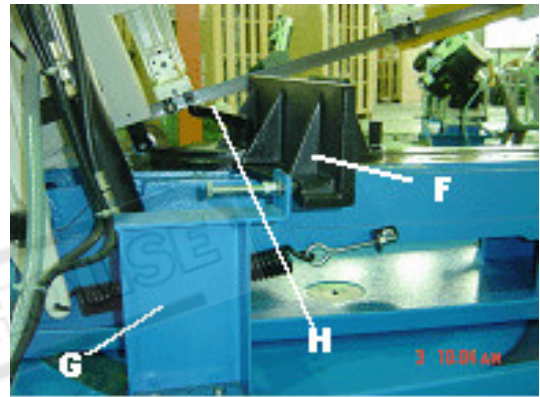

Fig.25
6. Remove oil breather nut (B) Fig.25.
7. Fill the gear box with oil through the oil hole (B) until the oil reach 1/3 volume in the oil window. Then replace oil breather nut (B) .
3. When the operator swivel the bow to the appropriate angle, first is to loosen the handle Fig.25(H), hand to grasp body frame on knob, Fig.26(I), and then to move the body,
That is the purpose of the design. Fig.25 (G) is position